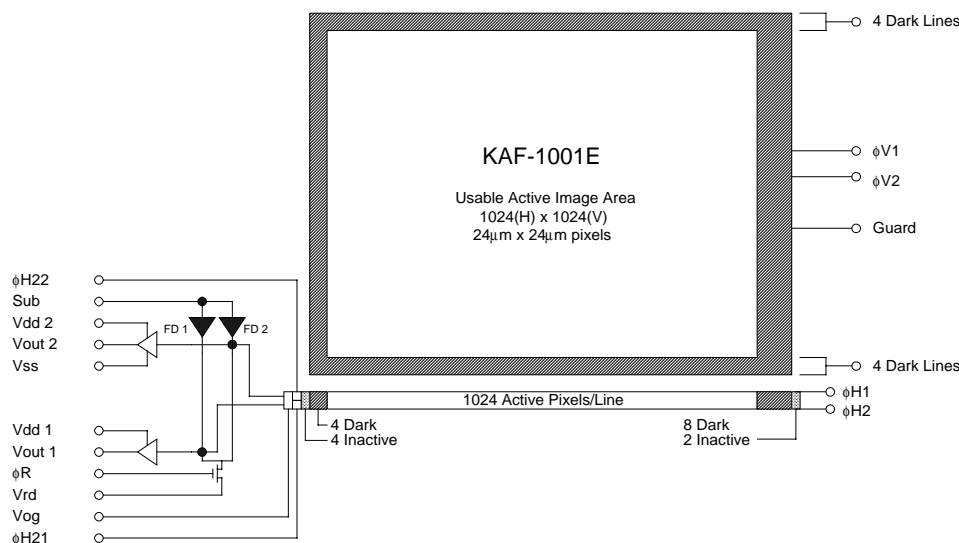

Figure 1 - Functional Block Diagram
Refer to the block diagram in Figure 1. The KAF-1001E consists of one vertical (parallel) CCD shift register, one horizontal (serial) CCD shift register and a selectable high or low gain output amplifier. Both registers incorporate true two-phase buried channel technology. The vertical register consists of $24\mu\text{m} \times 24\mu\text{m}$ photo-capacitor sensing elements (pixels) which also serves as the transport mechanism. The pixels are arranged in a 1024(H) x 1024(V) array; an additional 12 columns (4 at the left and 8 at the right) and 8 rows (4 each at top and bottom) of non-imaging pixels are added as dark reference. Because there is no storage array, this device must be synchronized with strobe illumination or shuttered during readout.